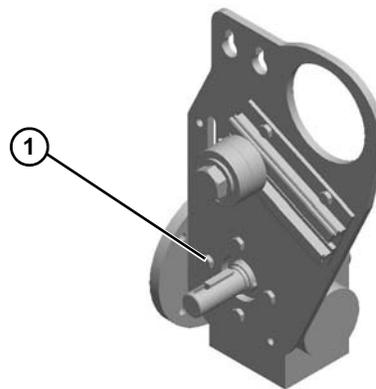

Figure 31
- Remove four gear reducer mounting bolts (Figure 31, item 1). Remove gear reducer.